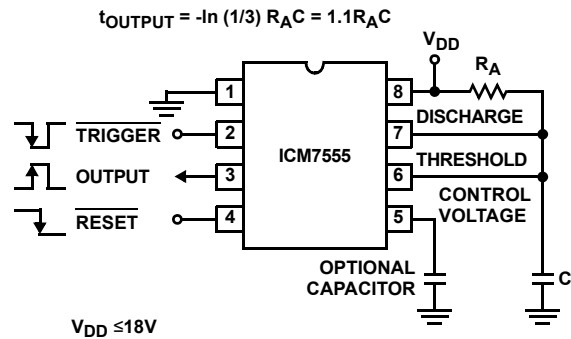

FIGURE 6. MONOSTABLE OPERATION
In this mode of operation, the timer functions as a one-shot (see Figure 6). Initially the external capacitor (C) is held discharged by a transistor inside the timer. Upon application of a negative Trigger pulse to pin 2, the internal flip-flop is set, which releases the short-circuit across the external capacitor and drives the Output high. The voltage across the capacitor now increases exponentially with a time constant $t = R_A C$. When the voltage across the capacitor equals $2/3 V+$, the comparator resets the flip-flop, which in turn discharges the capacitor rapidly and also drives the OUTPUT to its low state. Trigger must return to a high state before the OUTPUT can return to a low state.